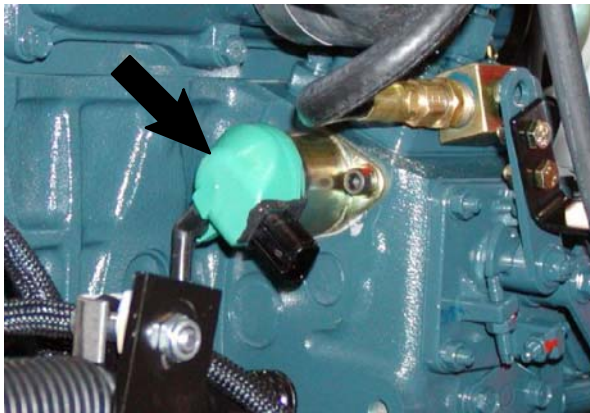

FIG. 5
3. Install the replacement stop solenoid (1) onto the fuel injection pump where the old stop solenoid was previously installed. Refer to Fig. 5.